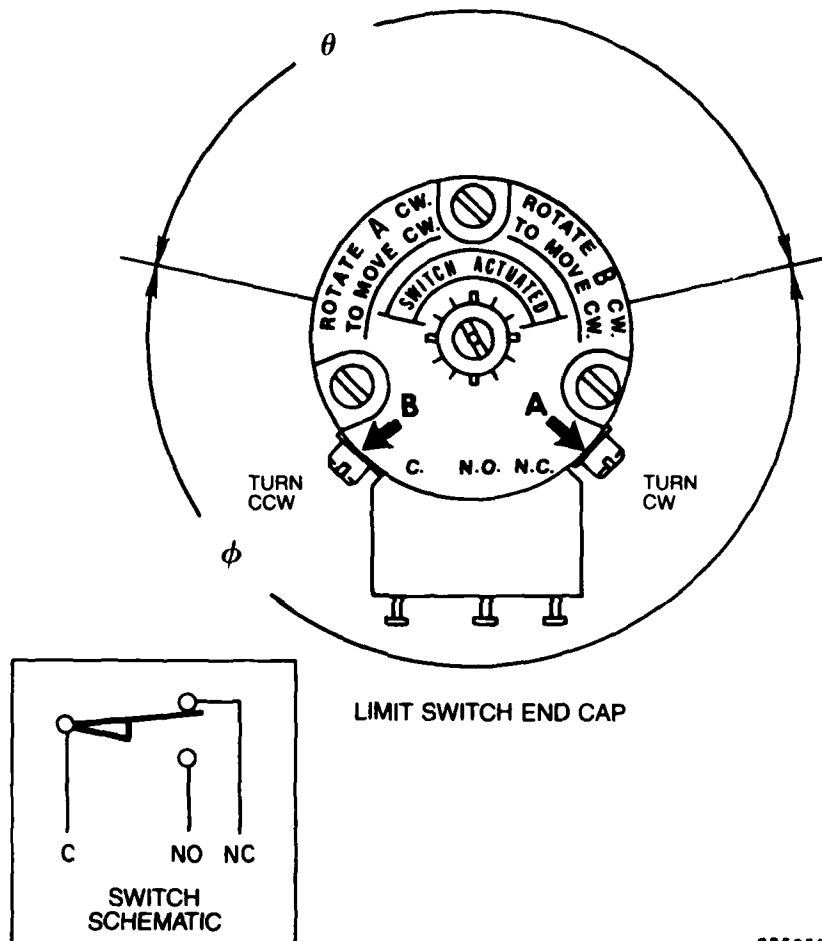

Figure 5.1. Limit Switch Adjustment
5.3.3. Limit switch adjustment. The limit switches of both axes are predjusted and need not be touched unless a different limit angle is required. The azimuth axis is adjusted to provide a travel of +120 degrees before contact is made. The elevation axis is adjusted to provide -20 degrees to +55 degrees before contact is made. Both limit switches are adjustable cam switch assemblies - Precision Mechanism Corporation (PMC) type CS-402-4. Adjustment procedures follow in this section (Figure 5.1).
5.3.3.2. Adjusting procedure. Follow the given procedures and see Figure 5.1 to adjust limit switches.
a. Follow procedure printed on end cap (Figure 5.1).
b. For switch closure angle "0" of 182° or less, wire to "Common" (C) and "Normally Open" (N.O.). Rotate adjusting screws according to instructions on end cap.